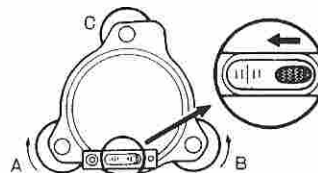

Fig. 13.1
- 1) See Figs. 13.1 and 13.2 for relation between bubble movement and rotation of the leveling foot screws.